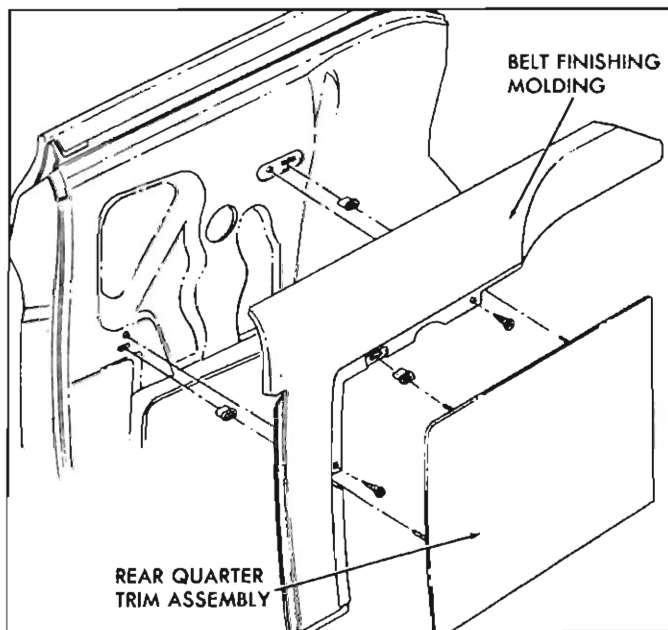

Fig. 34—Rear Quarter Trim Assembly
2. Remove screws securing belt finishing molding to quarter inner panel (fig. 34). Lift molding upward and inboard and remove it from body.
3. Using trim panel removing Tool J-6335, carefully disengage trim panel from inner panel at retaining nail locations (fig. 34).